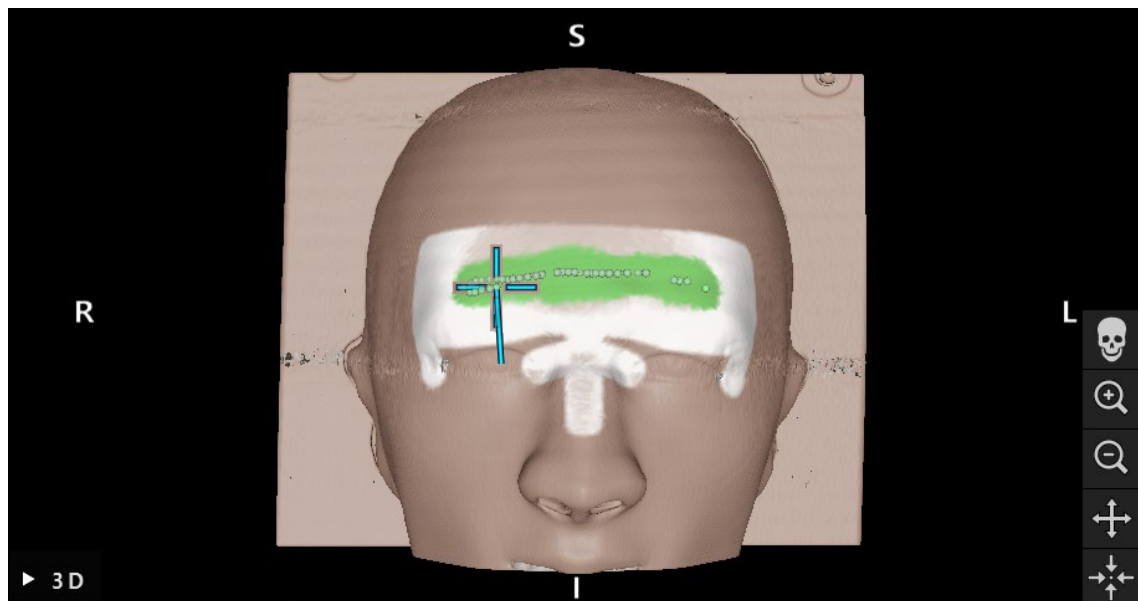

Figure 145 Move pointer over surface
4. Now move the pointer over the surface of the patient in wide curves. The more bony structures that are moved along, the more precise the registration (see Figure 145). A small progress wheel in the advice window indicates the progress of the registration.